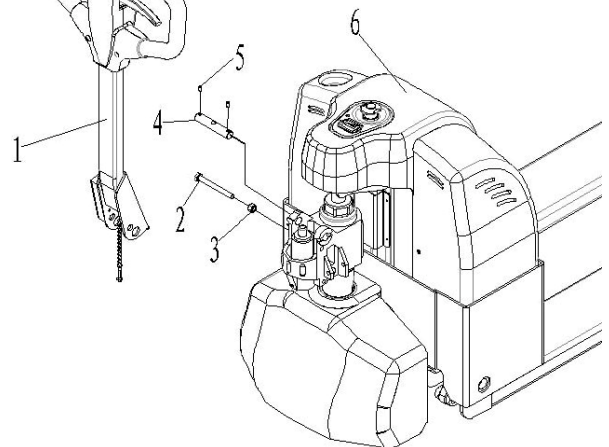

Fig. 5: SPT 15 tiller assembling
c) Press the tiller arm down; unscrew and remove the screw (2) and the nut (3) (fig. 5).
e) Use a hammer to insert the 2nd dowel pin (5, fig. 5) into the 2nd hole of the axle.